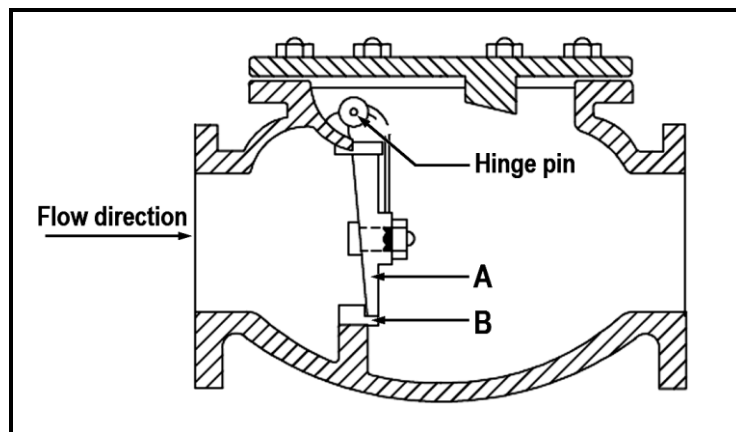

FIGURE 2
- 5.2 FIGURE 2 shows a diagram of a valve. (1)
- 5.2.1 Name the valve shown in FIGURE 2. (1)